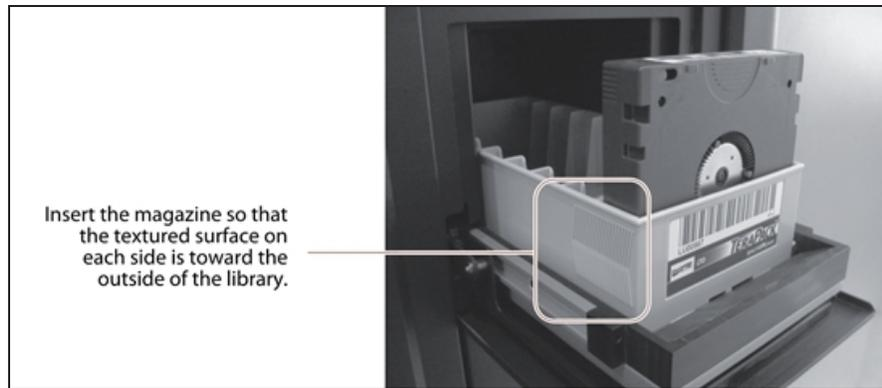

Figure 83 Insert a magazine into the TAP, making sure that it is correctly oriented.
3. Insert the magazine into the tray on the open TAP with the textured surface side toward the outside of the library, as shown in Figure 83 on page 148.
4. Click **Open TAP** to access the exported magazine. Exchange the magazine or any desired media in the TAP then click **Close TAP**. If you exchange a magazine, make sure the new magazine is oriented correctly (see Figure 83 on page 148).